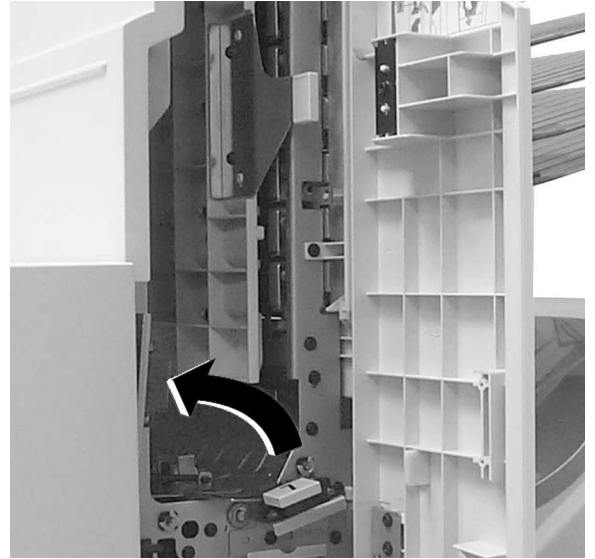

Figure 14: Pulling up on Handle 7
- 2 Pull up on Handle 7 until it snaps into place (Figure 14).